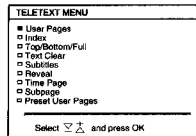

Fig. 37
- 1 Press MENU. The menu will be superimposed on the teletext display. (See Fig. 37)